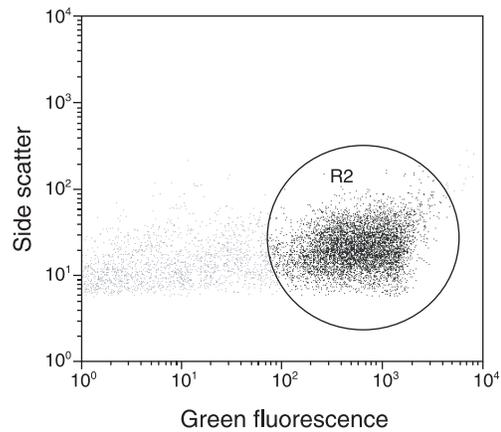

Figure 3. Dot plot of green fluorescence vs. side scatter. The region R2 contains events stained with SYTO® 24 nucleic acid stain.
4.2.5 When using a nucleic acid counterstain, use a single color control to set the voltage of the PMT so that the bacterial signal appears above background (Figure 3). To exclude acellular fluorescence, set a gate on the population stained with the nucleic acid counterstain.